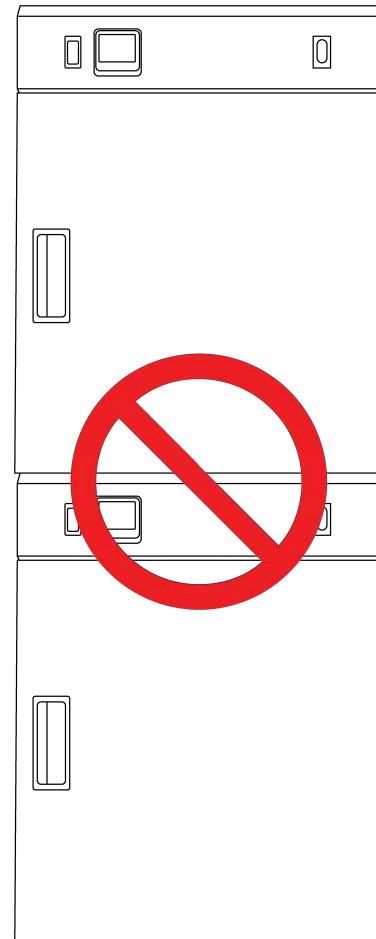

Fig 2. Do not stack
- Under no circumstances should any incubators be stacked on top of each other (Fig 2).